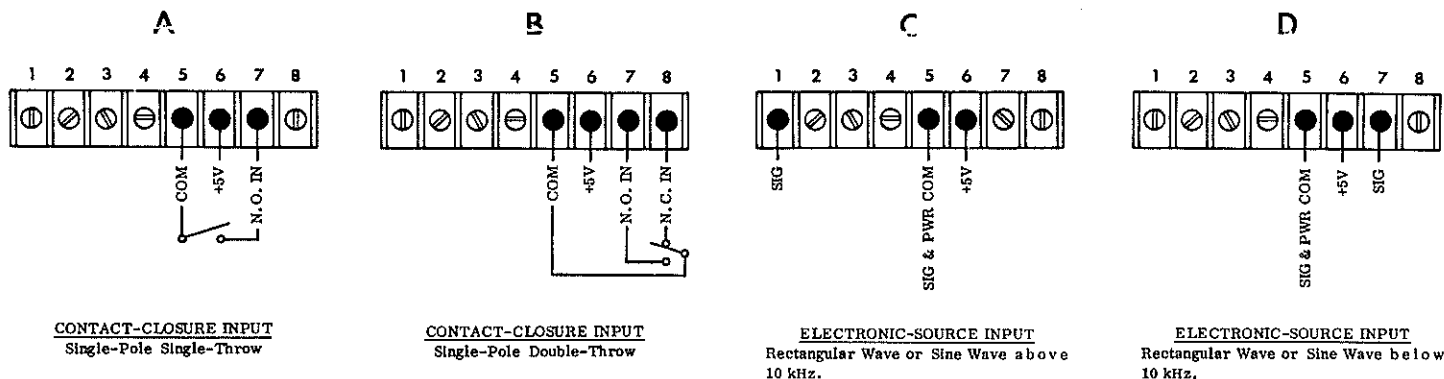

Figure 9. Input Connections for Unit Count, Frequency and Period Measurement
5. Using a frequency standard as the input source, connect inputs to terminal block as shown in figure 9"C".